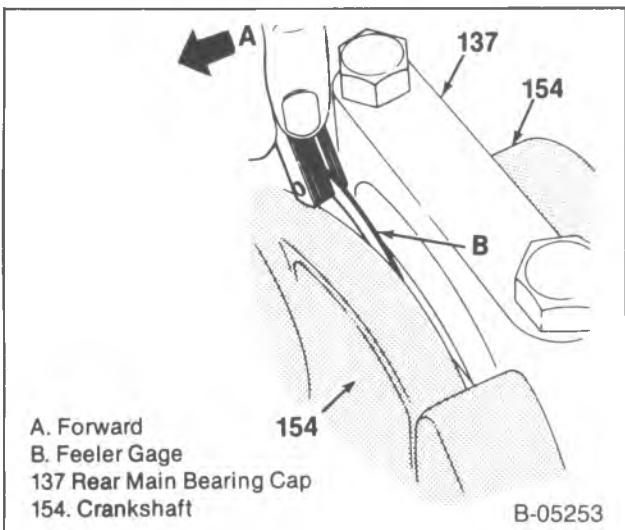

Figure 50—Measuring Crankshaft End Play
Measure (Figure 50)
1. Tap the end of the crankshaft (154) first rearward then forward with a lead hammer. This will line up the rear main bearing and crankshaft thrust surfaces.
2. Tighten the rear main bearing cap bolts (138) to 90 N·m (65 ft. lbs.).
3. With the crankshaft forced forward, measure at the front end of the rear main bearing with a feeler gage (figure 50). The proper clearance is 0.002-0.006-inch.